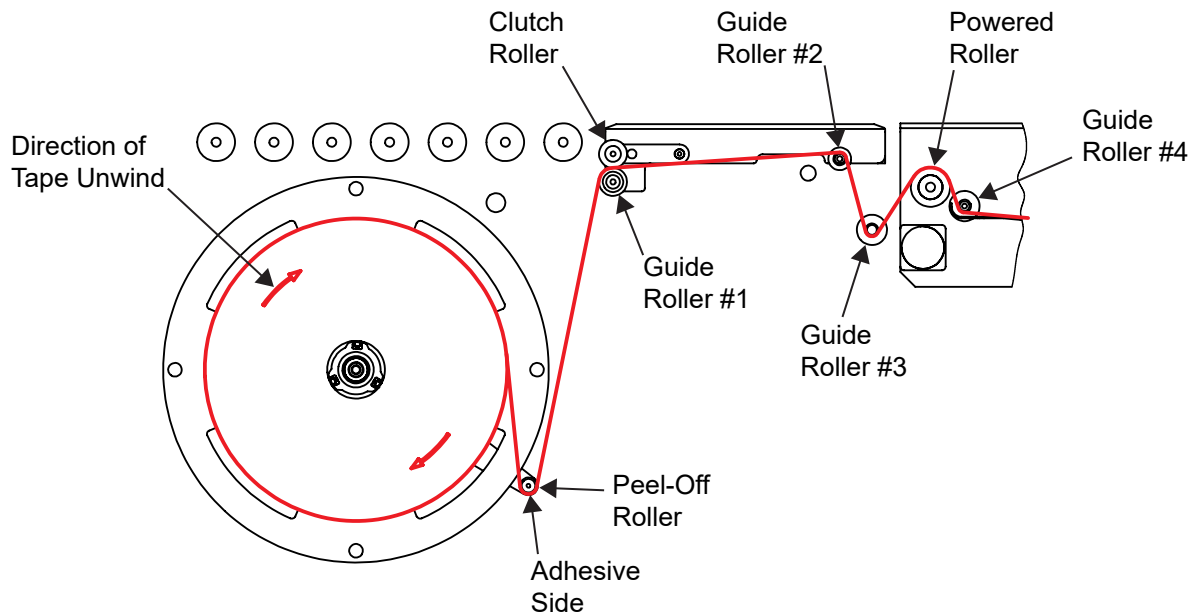
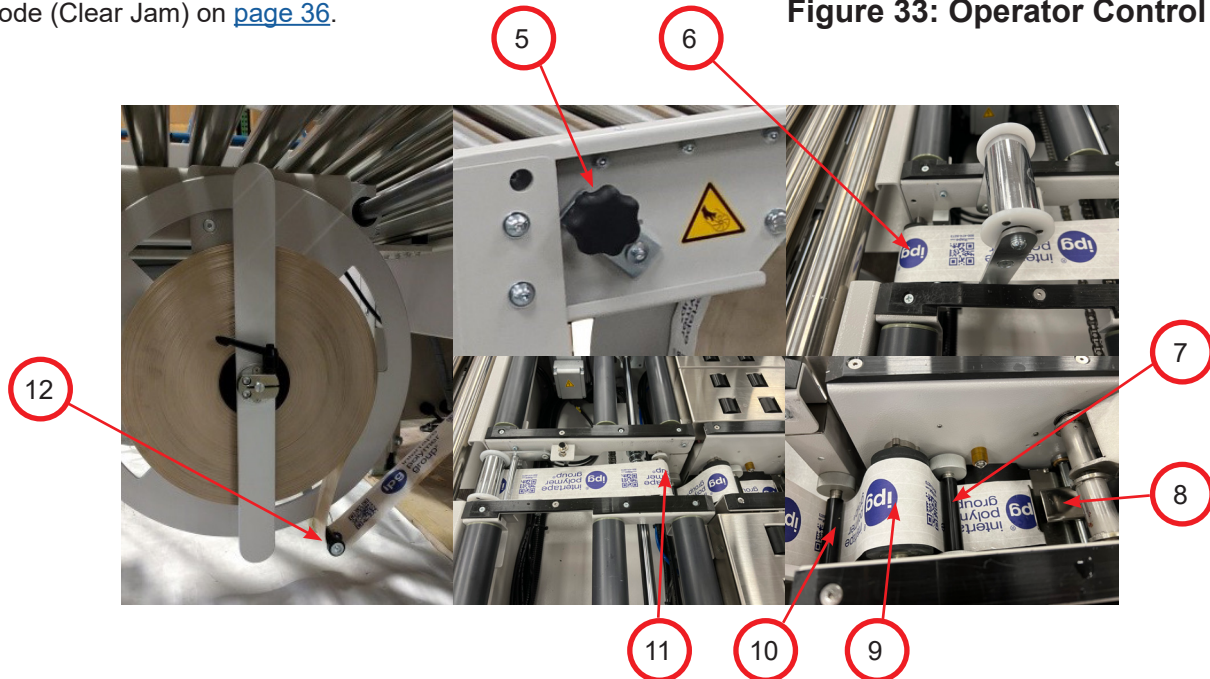

Figure 32: Bottom Tape Path
Figure 34: Top Tape Threading
The diagram below shows the threaded tape path using the red line/arrow as the tape. For proper threading of tape use the steps on page 31 (refer to Figure 34). The order in which the tape passes the rollers starts at the peel-off roller, travels through three guide rollers, as labeled below, then over powered roller, and under a fourth guide roller.
2. Install tape roll onto mandrel making sure the unwind direction is clockwise (refer to Figure 32). To move mandrel to tape roll installation position, pull locking lever to unlock mandrel slide handle (Figure 34, Item 5) then pull handle outward. After tape roll has been installed, move mandrel to running position by pushing mandrel slide handle inward and securing with locking lever.
3. Pull tape around peel-off roller and towards the front of the machine with adhesive side facing down (Figure 34, Item 12).
4. Thread tape over the first guide roller and under the clutch roller (Figure 34, Item 6), pull the tape toward the front of the machine going over the second guide roller (Figure 34, Item 12).
5. After threading over the second guide roller, pass tape under the third guide roller (Figure 34, Item 10), then over the powered roller (Figure 34, Item 9), and under the fourth guide roller (Figure 34, Item 7). Ensure pinch roller is not engaged, using the Tape Threading/Stop button (Figure 32, Item 2) to engage/disengage the pinch roller. Pass the tape under the pinch roller (Figure 34, Item 8).